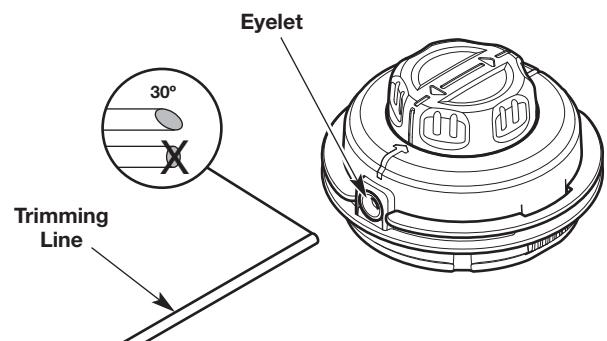
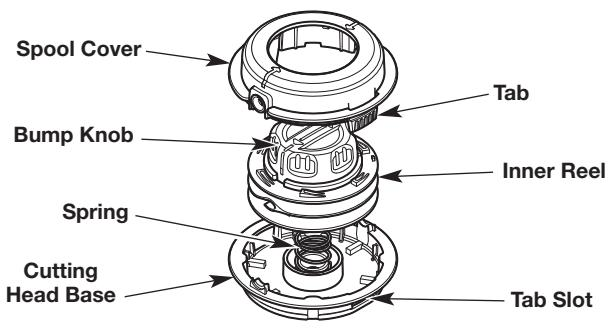

Fig. 25
Fig. 28
- Cut two 10-foot (3.0 m) lengths of new trimming line. Cut one end of each line at a 30 degree angle (Fig. 25).
- Insert one of the lines into an eyelet on the cutting head (Fig. 25). Use the angled end and push the line in about 3 inches (7.5 cm). Repeat this process with the other line and remaining eyelet.
- c. While holding the screwdriver in place, gently twist the screwdriver to unlock the tab from the tab slot (Fig. 28).
- d. Remove the spool cover (Fig. 28). **DO NOT** remove the spring from the cutting head base (Fig. 28).
- e. Push the bump knob through the spool cover (Fig. 28). If the eyelets come off, reinsert the eyelets on the spool cover (Fig. 25).
**NOTE: DO NOT** separate the bump knob from the inner reel (Fig. 28).
- g. Use a clean cloth to clean the inner reel, cutting head base and spool cover (Fig. 28).
- h. Insert the bump knob and inner reel into the spool cover (Fig. 28).
- i. Align the tabs on the spool cover with the tab slots on the cutting head base (Fig. 28). Push the spool cover onto the cutting head base until the tabs securely snap into place.